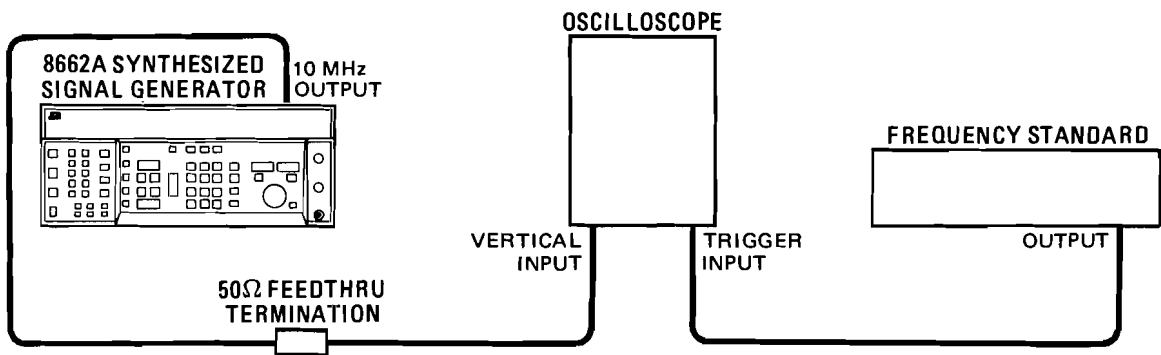

Figure 4-8. Internal Time Base Aging Rate Test Setup
2. Connect the equipment as shown in Figure 4-8.